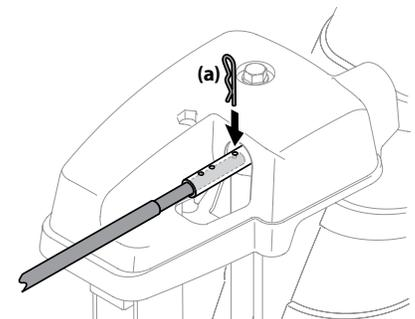

Figure 3-10
Follow this procedure to manually change the chute direction on units equipped with an electric chute directional control joystick and manual chute directional control rod only. See Figure 3-10.
1. Remove cotter pin (a) from either of the holes furthest from the chute assembly on chute rotation assembly. See Figure 3-10.
2. Push in chute control rod until the hole in it lines up with the third hole in chute rotation assembly. See Figure 3-10.
3. Reinsert cotter pin (a) through this hole and chute control rod as shown in Figure 3-10.